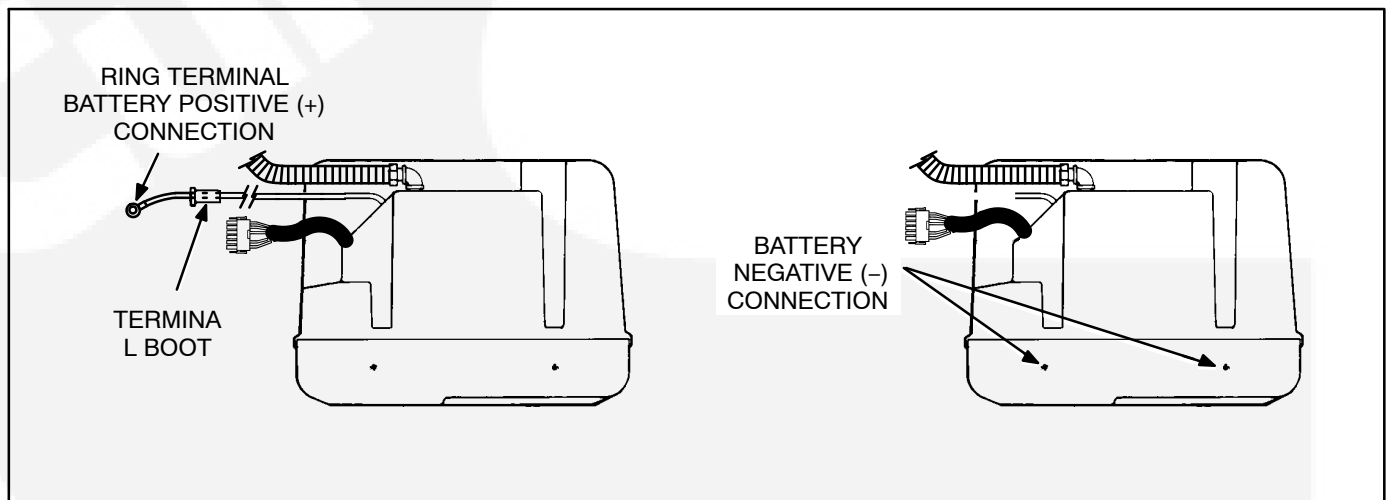

FIGURE 8-8. BATTERY CABLE CONNECTIONS
Negative (-) Battery Connection. Connect one end of the negative (-) battery cable to the genset ground. Tighten the ground connection securely (see Figure 8-8).
2. Connect one end of a short, negative (-) battery cable (of the same size as the positive (+) battery cable) to the vehicle frame near the genset. Connect the other end to the genset ground. See Figure 8-8.
Positive (+) Battery Connection. Refer to Figure 8-8 for the following steps:
The genset ground, as shown in Figure 8-8, is also the bonding terminal for grounding the genset to the vehicle frame (ground) when a continuous negative (-) battery cable is used from the battery directly to the genset. Connect an 8 AWG grounding wire from the vehicle frame to the genset ground.